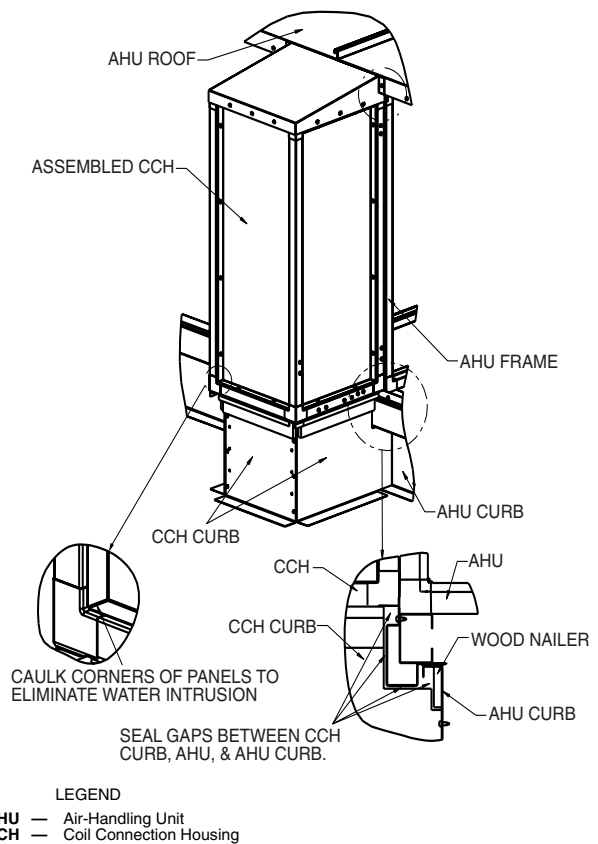

Fig. 46 — Reassembled Coil Connection Housing with Panels
13. Reassemble panels. If the coil connection housing has a 2 or more panel configuration, apply seal strip between panels before assembly. See Fig. 46 for view of assembled the coil connection housing.
15. Caulk the inside corners of the panels to eliminate any possibility of water intrusion. See Fig. 46.